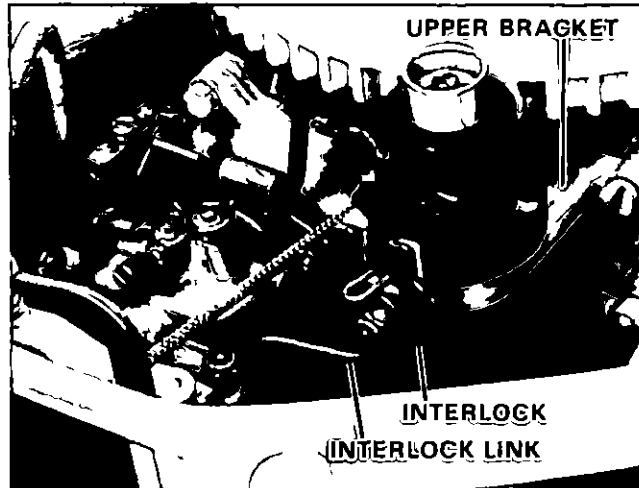

Figure 4. Removing Interlock
- 8 Remove two (2) hex screws securing upper bracket Remove stop nut, washer, and two (2) O rings securing interlock connecting link to gear shift shaft lever Remove upper bracket with remainder of interlock assembly Figure 4